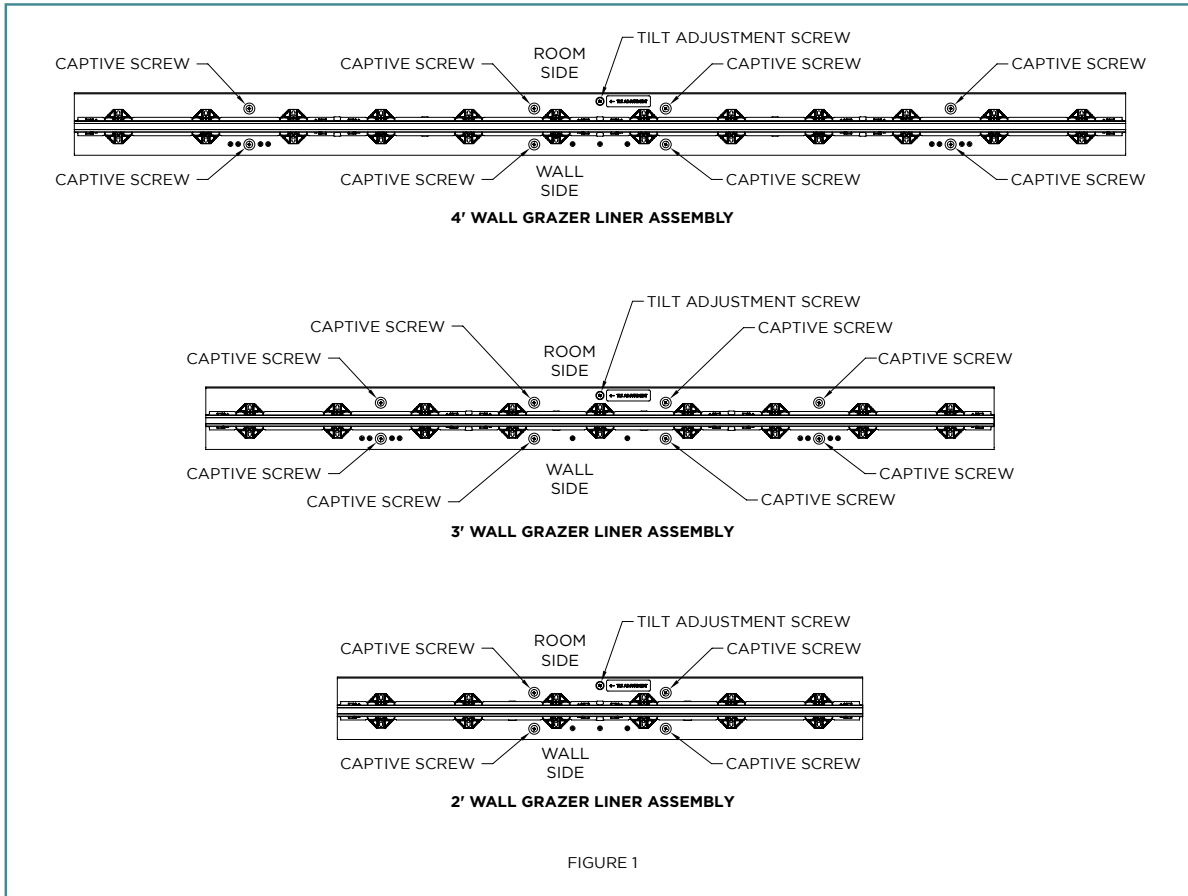

FIGURE 1
1. Attach Wall Rail(s) to wall. Follow the standard Perimeter Regress instructions and ensure Wall Rails are centered between the adjacent walls (FIGURE 1). The distance from Wall Rail to adjacent wall should be 2”-3”.
1. For continuous run wall grazer fixtures, it will be necessary to remove the liner assembly during installation. Loosen the captive screws shown to remove the liner assembly (Figure 1).